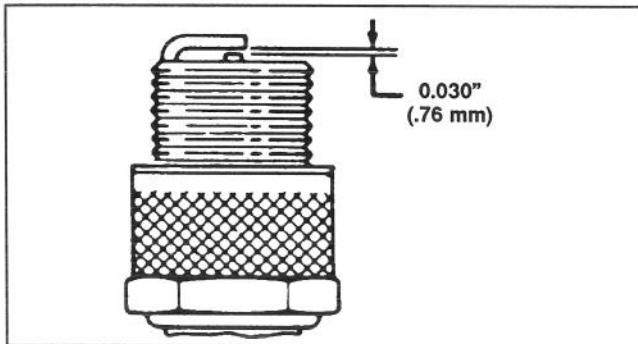

Figure 18
3. Set air gap at 0.030" (0.76 mm) (Fig. 18). Install correctly gapped spark plug and gasket seal. Tighten plug firmly to 15 ft-lb (20 N·m).